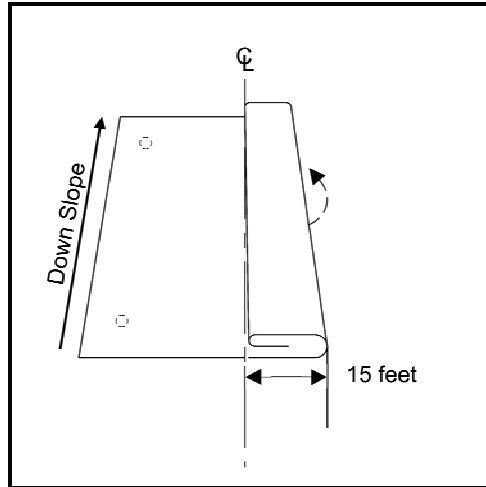

Figure 5. Folding the edge to center, again.
3. Fold the folded edge to center, again (Figure 5).